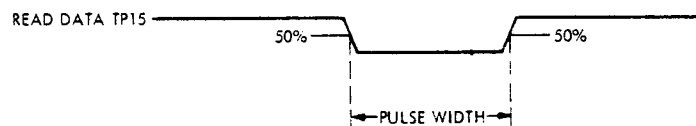

Figure 6-20. Read Clock/Read Data Pulsewidth
- (1) Observe Read Data TP15 (or Read Clock TP16) on oscilloscope Channel 2 as shown in Figure 6-20.
- (2) Measure and note the pulsewidth.
- (3) Acceptable Limits